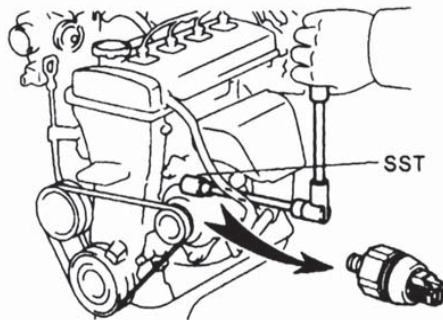

Figure 80
3. Detach oil pressure sensor assembly. See (Figure 80)